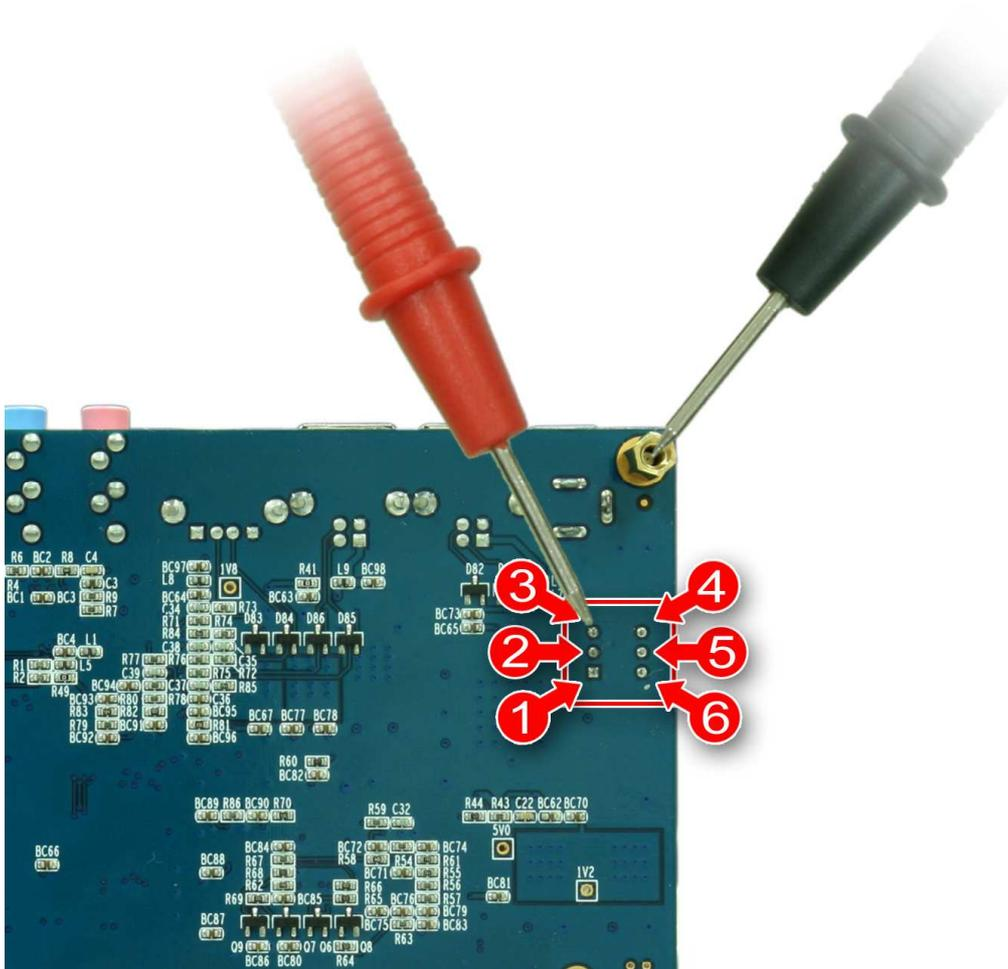

Figure 3
2. Set the multi-meter to measure Ohms and put the black probe on the copper standoff as shown in Figure 3. (this is the board ground) Then measure the pin 3 or pin 6. (Pin 3 and Pin 6 are electrical equivalent points)